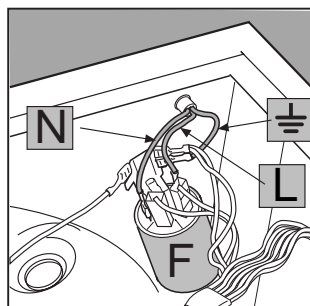

Fig. 4
**3.** Disconnect the wires from the radio interference suppressor **F** [fig. 4] noting as to their position (**Blue=N** wire; **Brown=L** wire) leaving the earth wire until last  $\perp$ .